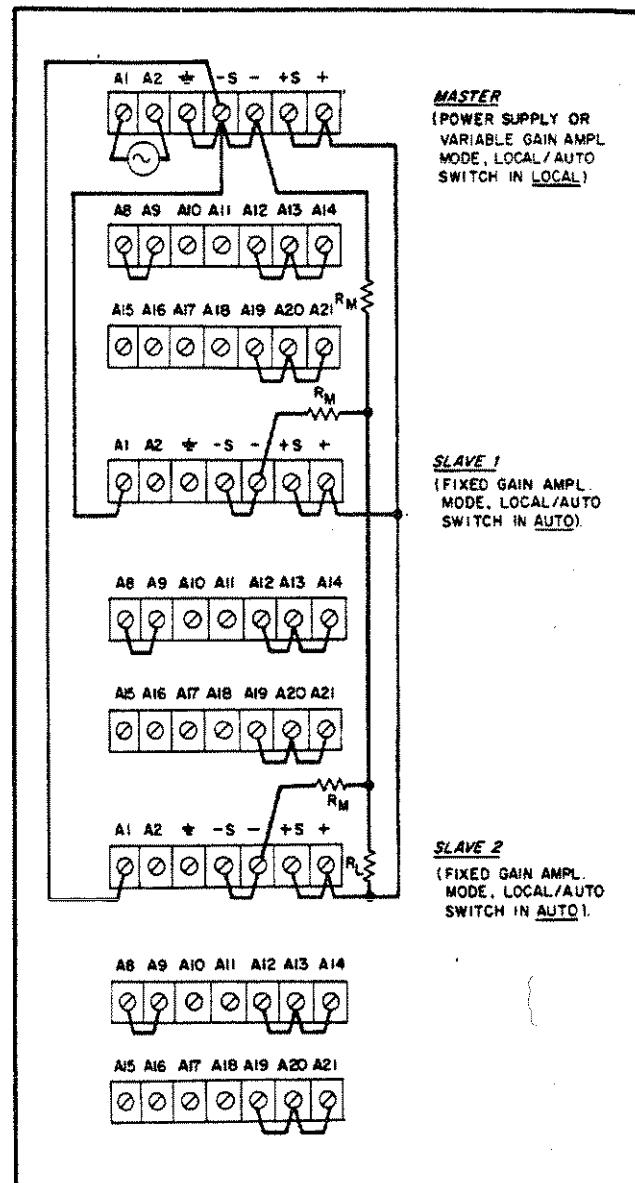

Figure 3-13. Auto-Parallel Connections, Three Units
**3-61 Auto-Parallel Operation.** Two or more BPS/A's can be connected in auto-parallel arrangement to obtain an output current greater than that available from a single supply. Figure 3-13 illustrates the auto-parallel connections for three supplies to allow increased output current in constant voltage operation. When this arrangement is used, current sharing under all load conditions is permitted under control (front panel CURRENT control or remote programming) of the master supply. Because the CURRENT controls (or remote programming) of each slave are operative, they should be set to a maximum to prevent the slave reverting to constant current operation; this could occur if the master output current setting exceeded the slave's. For equal current sharing, the leads from  $R_M$  to the load and to the (-) terminals should be approximately equal in length. To maintain instrument accuracy and stability,  $R_M$  should be a stable, low temperature coefficient resistor of sufficient rating to prevent any appreciable self-heating (typically  $1\Omega$ ,  $8\text{W}$ ,  $\pm 20 \text{ ppm}/^\circ\text{C}$ ,  $\pm 1\%$ ).